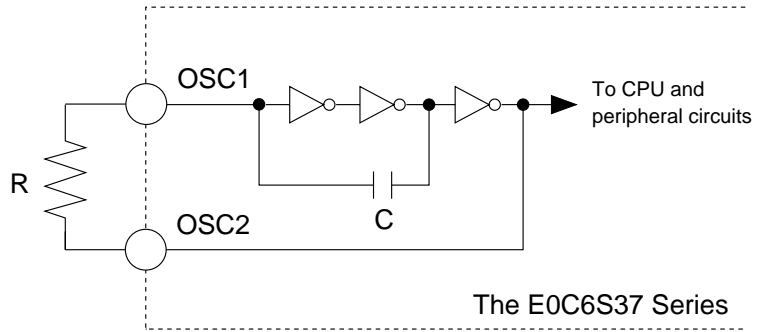

Fig. 4.2.2
For the E0C6S37 Series, CR oscillation circuit (typ. 65 kHz) may also be selected by a mask option. Figure 4.2.2 is the block diagram of the CR oscillation circuit.
As Figure 4.2.2 indicates, the CR oscillation circuit can be configured simply by connecting the register (R) between pins OSC1 and OSC2 since capacity (C) is built-in. See Chapter 6, "ELECTRICAL CHARACTERISTICS" for R value.